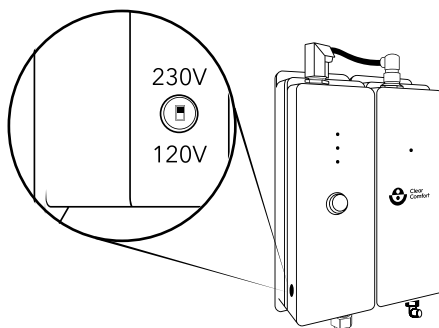

Figure 2: Ballast Electrical Switch
3. Set the switch on the ballast on the orange Control Unit: Remove plug in the left side of the Control Unit. With a small screwdriver, slide the switch in the appropriate direction according to the label on the Control Unit. Re-install the plug. See Figure 2.
3. Remove protective ballast switch cover. Toggle ballast switch between 120V and 230V to match required voltage. See Figure 2. Ensure white marked saddle switch matches correct voltage.
2. Remove protective ballast switch cover. Toggle the ballast switch between 120V and 230V to match required voltage. See Figure 2.